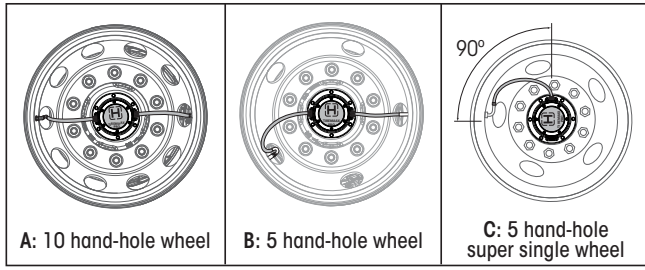

Figure 4: Properly clocking hubcaps and wheels helps prevent tire hose damage during operation.
- 6. Orient** hubcap for proper tire hose routing. **Aligning** the tire hose ports so they are **BETWEEN** two wheel mounting studs will generally provide the best tire hose routing (Figure 4).